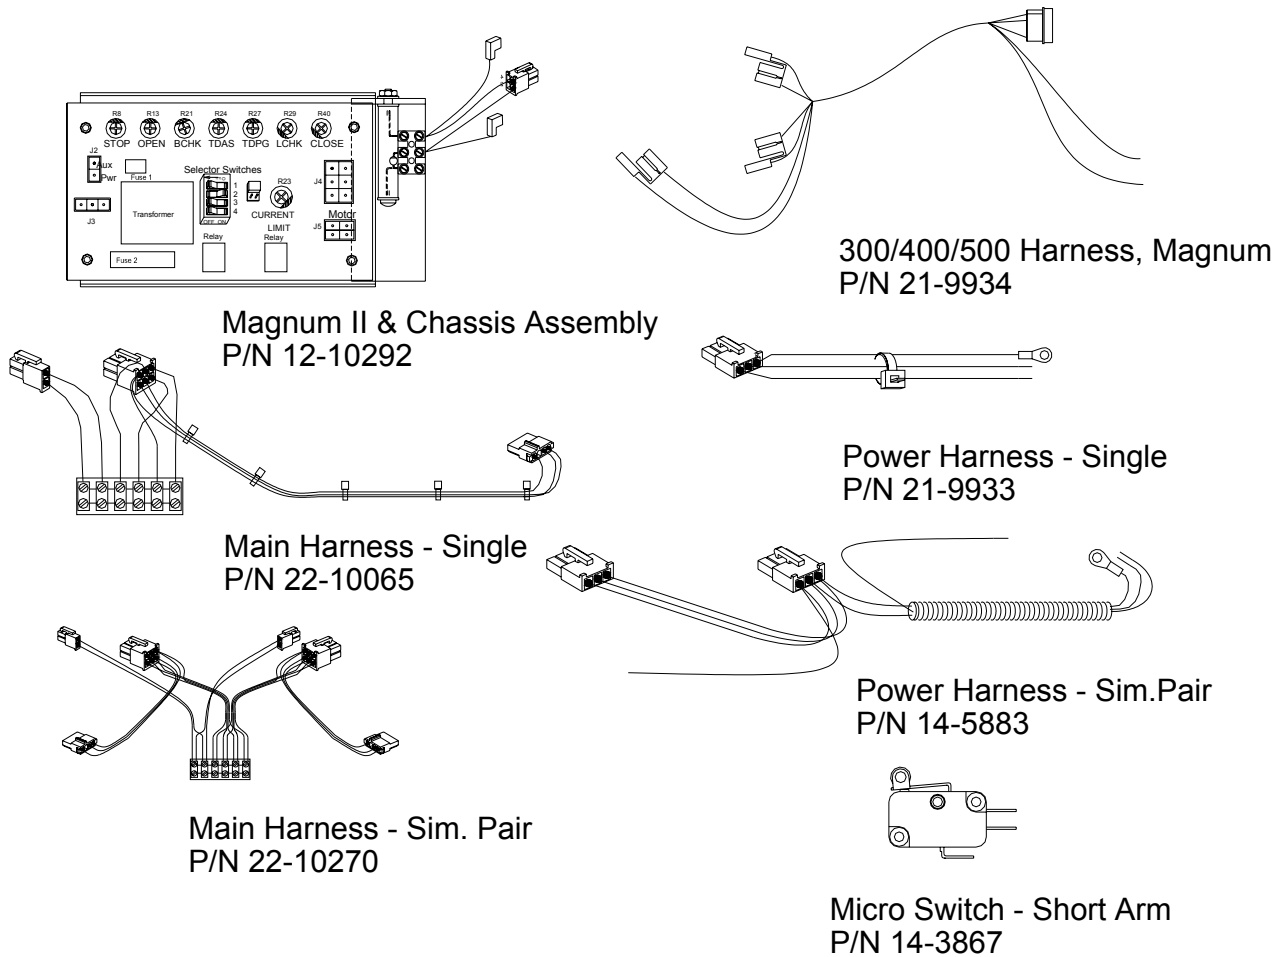

Figure 3 – Hardware Kit
5. Connect the "Magnum Board 300/400/500 harness," (See Figure 3) to the micro switches on the operator as shown in Figure 4